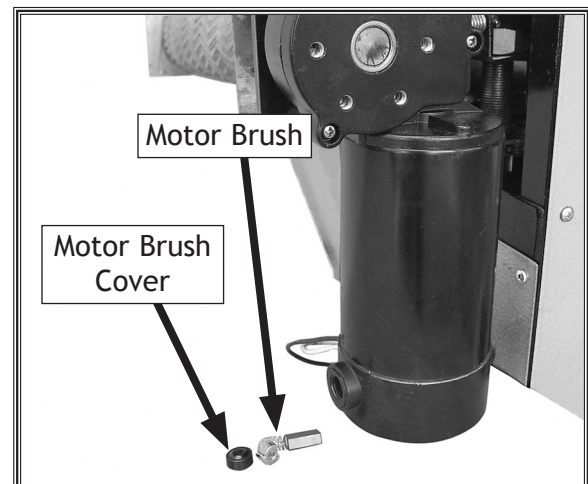

Figure 4. Motor brush components removed (one of two brushes shown).
2. Remove each brush cover with a flat head screwdriver and remove the brushes from the motor, as shown in **Figure 4**.